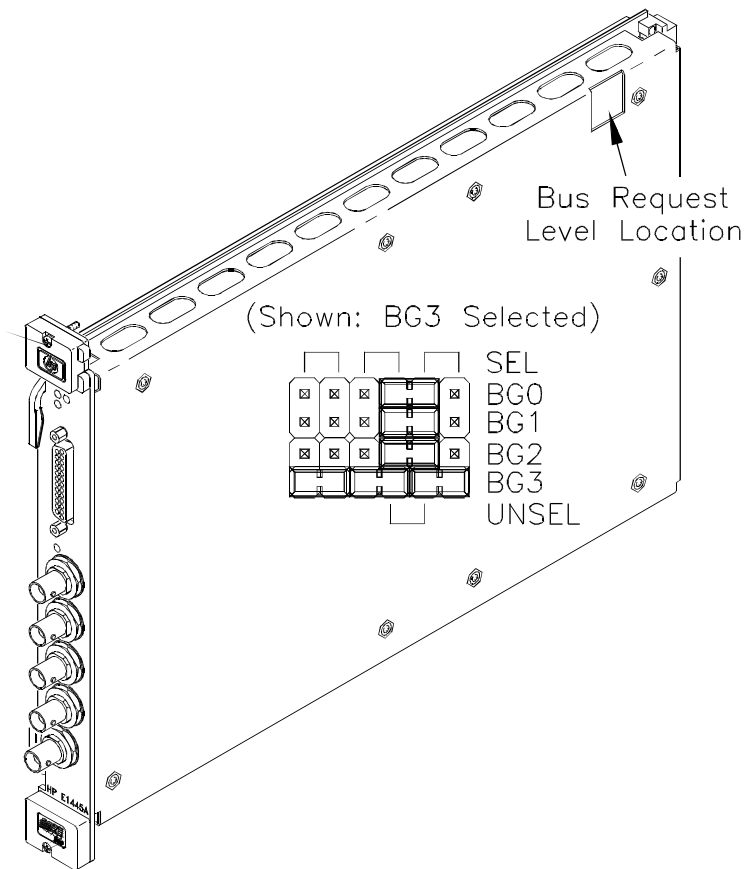

Figure 1-3. Setting the AFG Bus Request Level
- There are four bus request lines (BG0–BG3) from which one is selected (Figure 1-3). Bus request line 3 has the highest priority, bus request line 0 has the lowest priority.